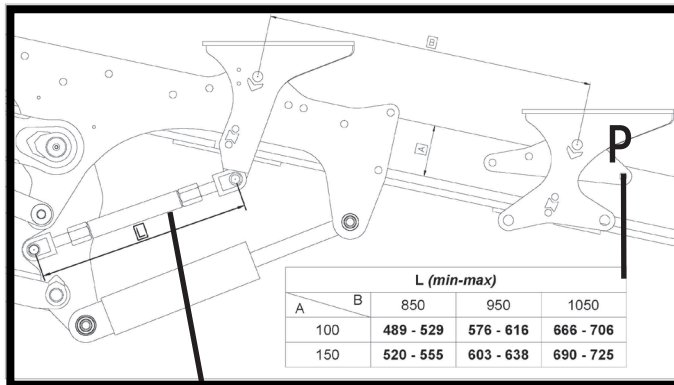

Fig. 1
(Fig.1) WARNING
If the plough does not have an oscillating shaft available you must adjust the drifting through the tensor T (Fig. 1) until it matches the measure indicated in the sticker (P).